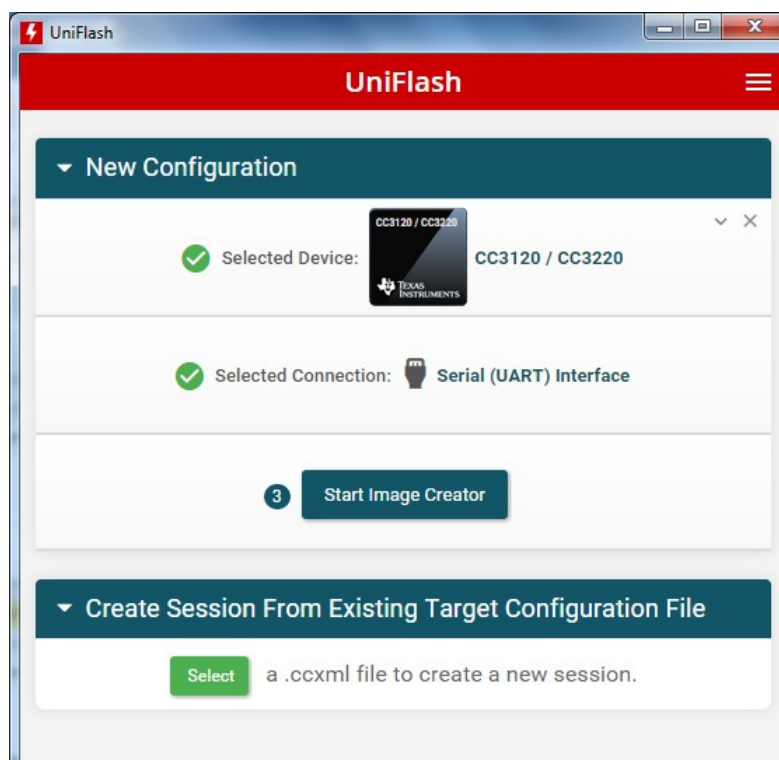

Figure 38. UniFlash – Choose CC3120 / CC3220 Device
2. Choose CC3120/CC3220 device, and then click the Start Image Creator button (see Figure 38).